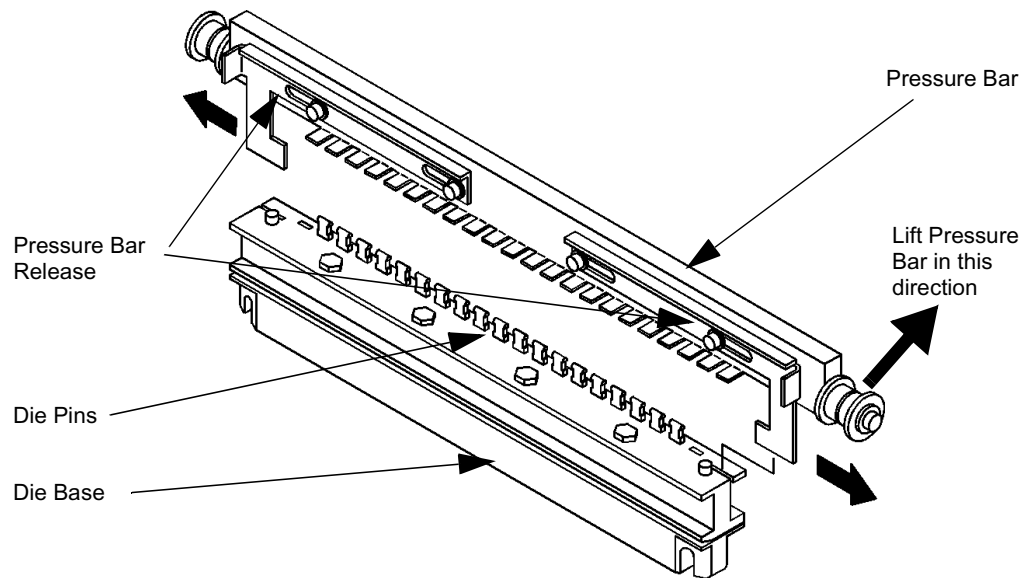

Figure 2-4: Accessing the Die Pins
- 1 To remove and replace individual die pins, slide the Pressure Bar release levers to the side and lift the Pressure Bar off of the Die, as shown in Figure 2-4.